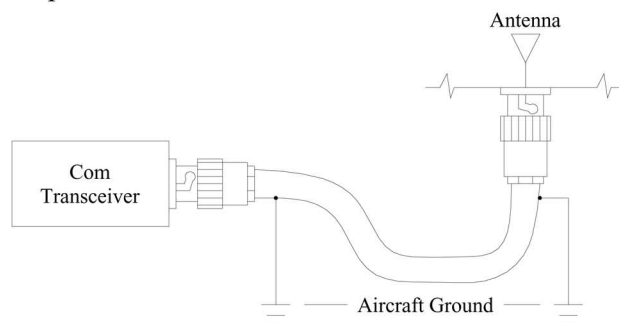

Figure 1 Radio frequency (RF) current will not flow through the grounded wires.
What happens to the wire when it is damaged by any of the actions described above? Why is this detrimental? There is a popular bit of wisdom in our industry that goes something like this: *If you want to keep external signals off of a wire, you ground the shield on one end. If you want to keep the signals in the wire, then you ground the shield at both ends.* From previous discussion, we know that the single-ended shield is acting as an electrostatic shield and preventing capacitive coupling (but doing nothing for inductive coupling). It has also been previously shown that grounding a shield at both ends can actually induce unwanted signals into conductors through ground loops. So why do you ground at both ends? Because with high frequency signals, the maximum power that it is possible to draw from a source will be obtained when the load impedance matches the source impedance. To keep the impedance the same throughout the cable, you must carefully match the cable characteristics at each end - either with coaxial connectors or short lengths of wire. What is unusual about high frequency signals is that they do not act like their low frequency counterparts. For example, if you take a typical communications transceiver installation (with RF connectors and suitable coaxial cable) and connect an additional wire from each coaxial connector body to the airframe as shown in Figure 1 below, there will be no effect on reception or transmission quality because *no radio frequency (RF) current will flow through the grounded wires.* This is due to the phenomenon known as *skin effect*. By contrast, at lower frequencies, current would flow through the shield and ground wires as dictated by simple resistances of the return path.